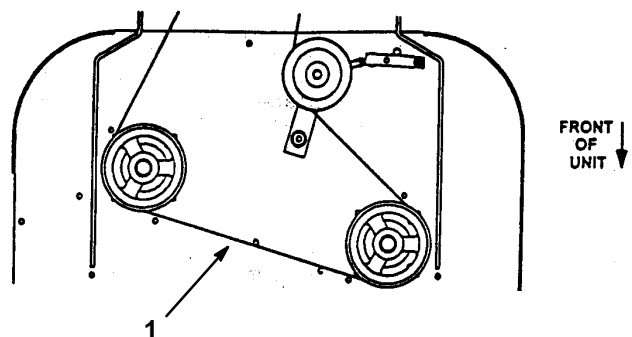

Figure 45
3. Remove mower belt (Fig. 45).
7. Install the mower belt (Fig. 45).
3. Loosen locknut and turnbuckle on idler arm. Remove worn belt (Fig. 45).
4. Install new belt and adjust belt tension, loosen the 5/16" locknut on turnbuckle and rotate the turnbuckle toward the rear of mower to tighten or toward the front of mower to loosen belt tension (Fig. 45).